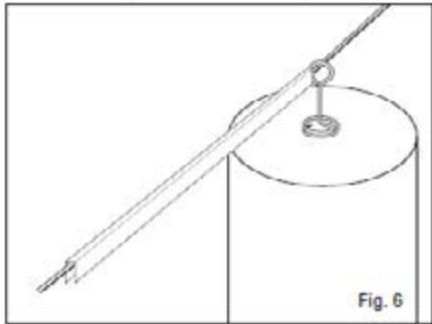

Fig. 6
- W5. Slide absorber across the cable. Insert pinta spacers between baffles for even placement across the cable span. (Fig. 6) Spacers can be used on the ends of cables to keep baffles clear of objects, or between baffles to create openings for ductwork or light fixtures.